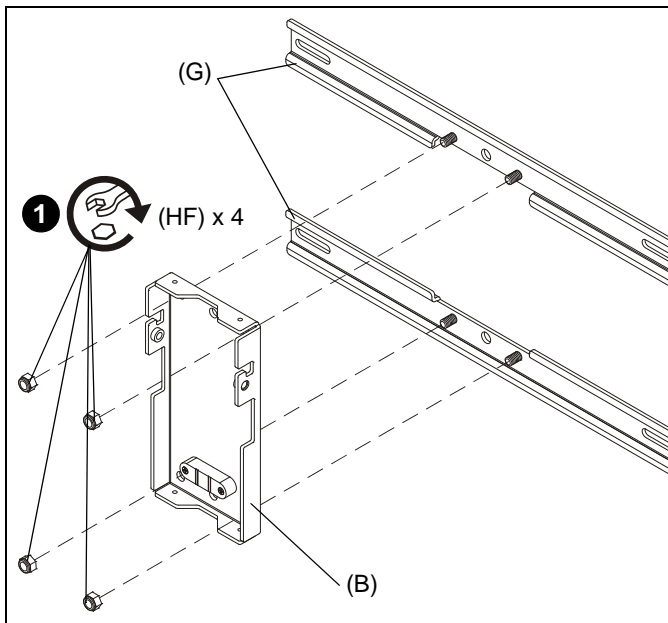

Figure 1
1. Attach wall plate (B) to two dual stud brackets (G) using four 5/16" lock nuts (HF). (See Figure 1)